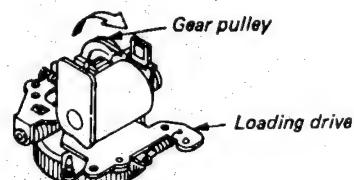

Fig. 1-3-27 Loading drive , FF mode
2. Remove the washer (A) and disconnect the pinch connector.
3. Remove the cam lever stopper and the washer (B), and remove the cam lever assembly upward.
4. Turn the gear pulley in direction shown by the arrow until it stops to set the FF/REW mode. (Fig. 1-3-27)
5. Remove the screws (A) and remove the loading drive assembly.
6. Remove the loading belt and the screws (B), and remove the motor.